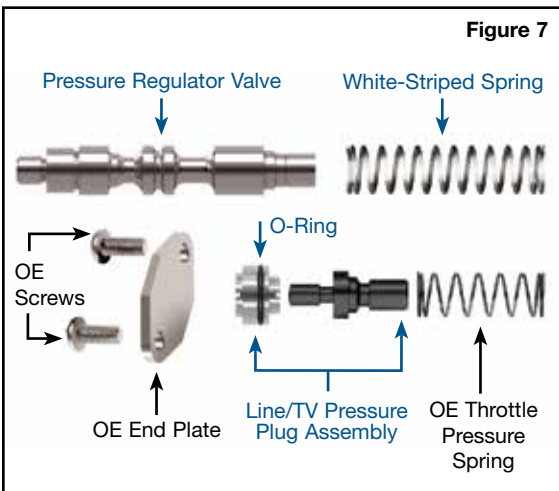

Figure 7
a. At the opposite end of the pressure regulator bore, reinstall the OE throttle spring, followed by the Sonnax oversized line/TV pressure plug assembly (Figure 7).